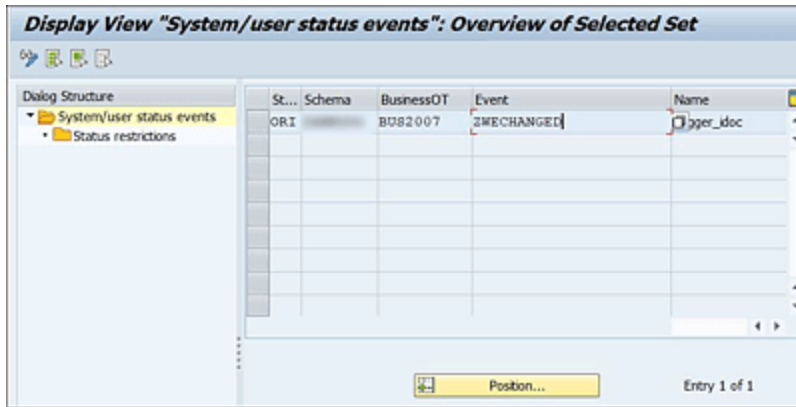

Figure 5.14 Event Configuration with User Status Profile in Transaction BSVZ
- Workflow events may be configured for system/user statuses in Transaction BSVZ (see Figure 5.14 for an example). These entries are always maintained by the customer and not provided by SAP. Here, we've configured the event **ZWECHANGED** of business object **BUS2007** and a custom status profile for status object type **ORI** (maintenance order).